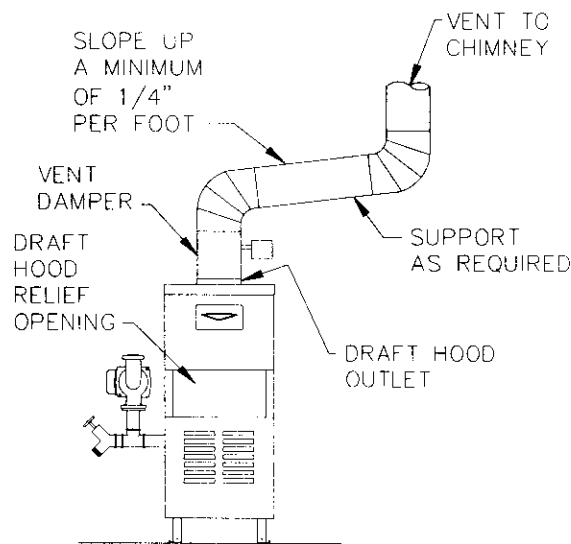
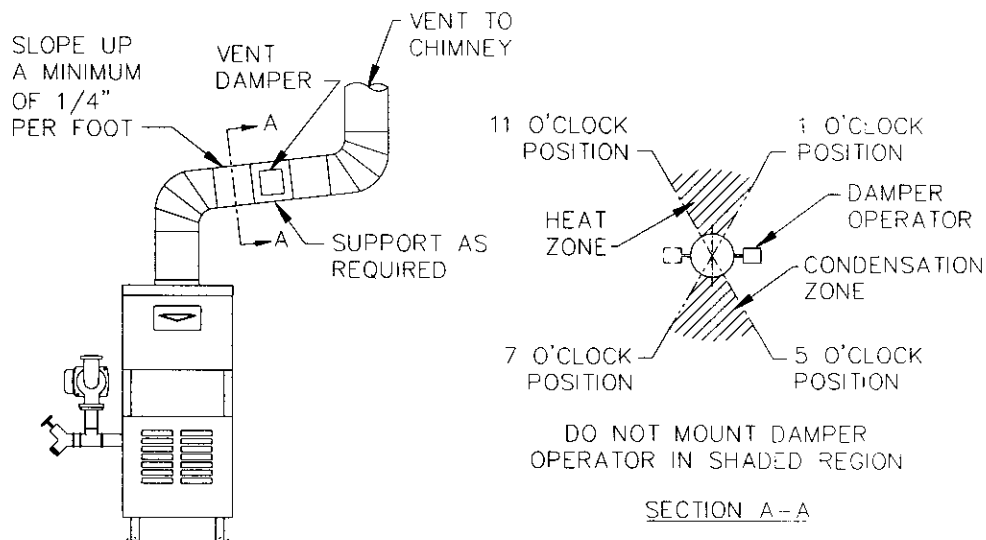

Figure 13: Venting with Vent Damper in Vertical Position
Figure 14: Venting with Vent Damper in Horizontal Position
4. Orient the damper operator to facilitate connection of the harness with the vent damper and boiler. Note flue gas flow arrow on vent damper and orient as required. For installation with damper mounted in vertical position, see Figure 13. For installation with damper mounted in horizontal position, mount the unit as shown in Figure 14 to avoid excessive heat on the operator or condensation drips into the operator.